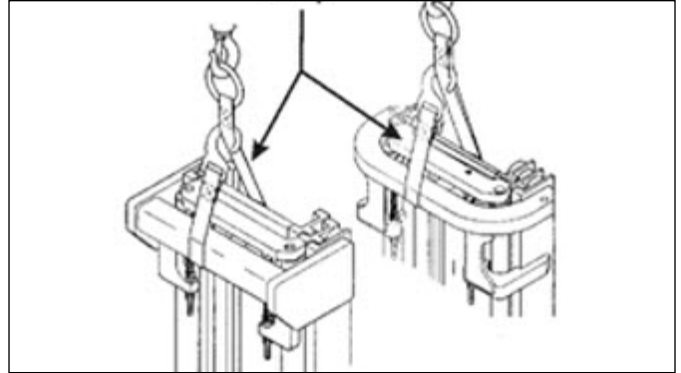

Figure 3-5: Overhead Strap
9. Attach an overhead crane and strap, rated to 3 tons, and apply slight lift to the mast. See See Figure 3-5.